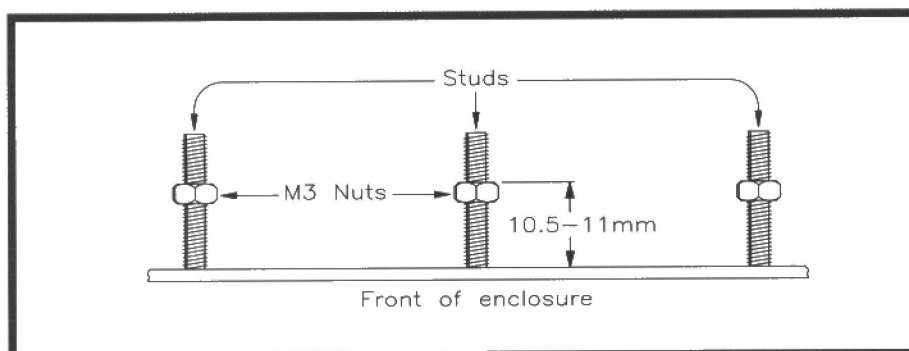

Figure 10. Correct adjustment of Display PCB position-setting nuts.
14. Fit an M3 nut to each of the studs pre-welded to the front panel, and adjust each so that the distance from the top of the nut (where the Display PCB will reside) to the inside of the front panel is between 10.5 and 11mm. Refer to Figure 10.